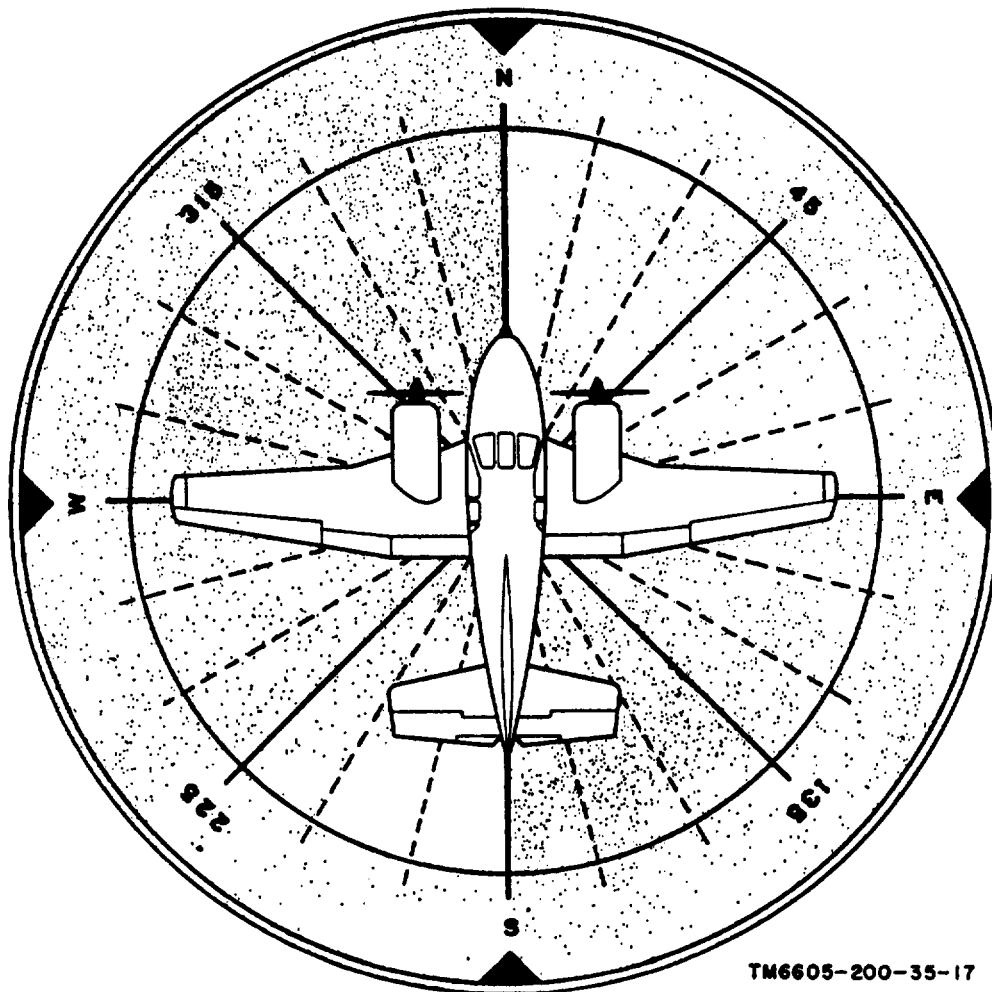

Figure 21. Typical compass rose showing magnetic headings and an aircraft aligned with magnetic meridian.
Calibration of the compass system is required to correct for magnetic influences which cause errors in the heading indication. Index error is produced when the magnetic north axis of the flux valve is not parallel with the longitudinal axis of the aircraft. Index error can be eliminated by proper rotation of the flux valve with relation to the aircraft. Deviation error is caused by undesirable magnetic influences within the aircraft (electrical or magnetic aircraft apparatus) and within the compass system. Deviation error can be corrected by adjustment of the compensator. A compass rose (fig. 21), which consists of a large circular concrete platform accurately marked with various magnetic headings through 360°, is generally used for compass system alignment. In
- (1) Align the longitudinal axis of the aircraft with the N-S axis of the compass rose as shown in figure 21.
- (2) Observe the compass card on the gyro unit and record the amount of error in the heading indication. Assign a plus (+) value if the compass card error is greater than the actual aircraft heading (clockwise from north) or a minus (-) value if it is less than the actual aircraft heading (counterclockwise from north), as determined from the compass rose.
- (3) Align the longitudinal axis of the aircraft with each of the other three cardinal points on the compass rose in turn; record the error at each point.
- (4) To find the index error, add the four values algebraically and divide by 4.
- (5) Loosen the mounting screws in the flux valve flange sufficiently to permit rotation of the flux valve.
- (6) Hold the flux valve against its mounting surface. Rotate the flux valve so that the flange graduation that is equal to the magnitude of the index error (counting from the 0° graduation) is aligned with the scribed reference mark on the flux valve mounting cutout (a(3) above). Rotate the flux valve in the minus (-) or counterclockwise direction (flux valve viewed from the top) if the index error is positive; rotate the flux valve in the positive (+) or clockwise direction for a negative index error. Tighten the